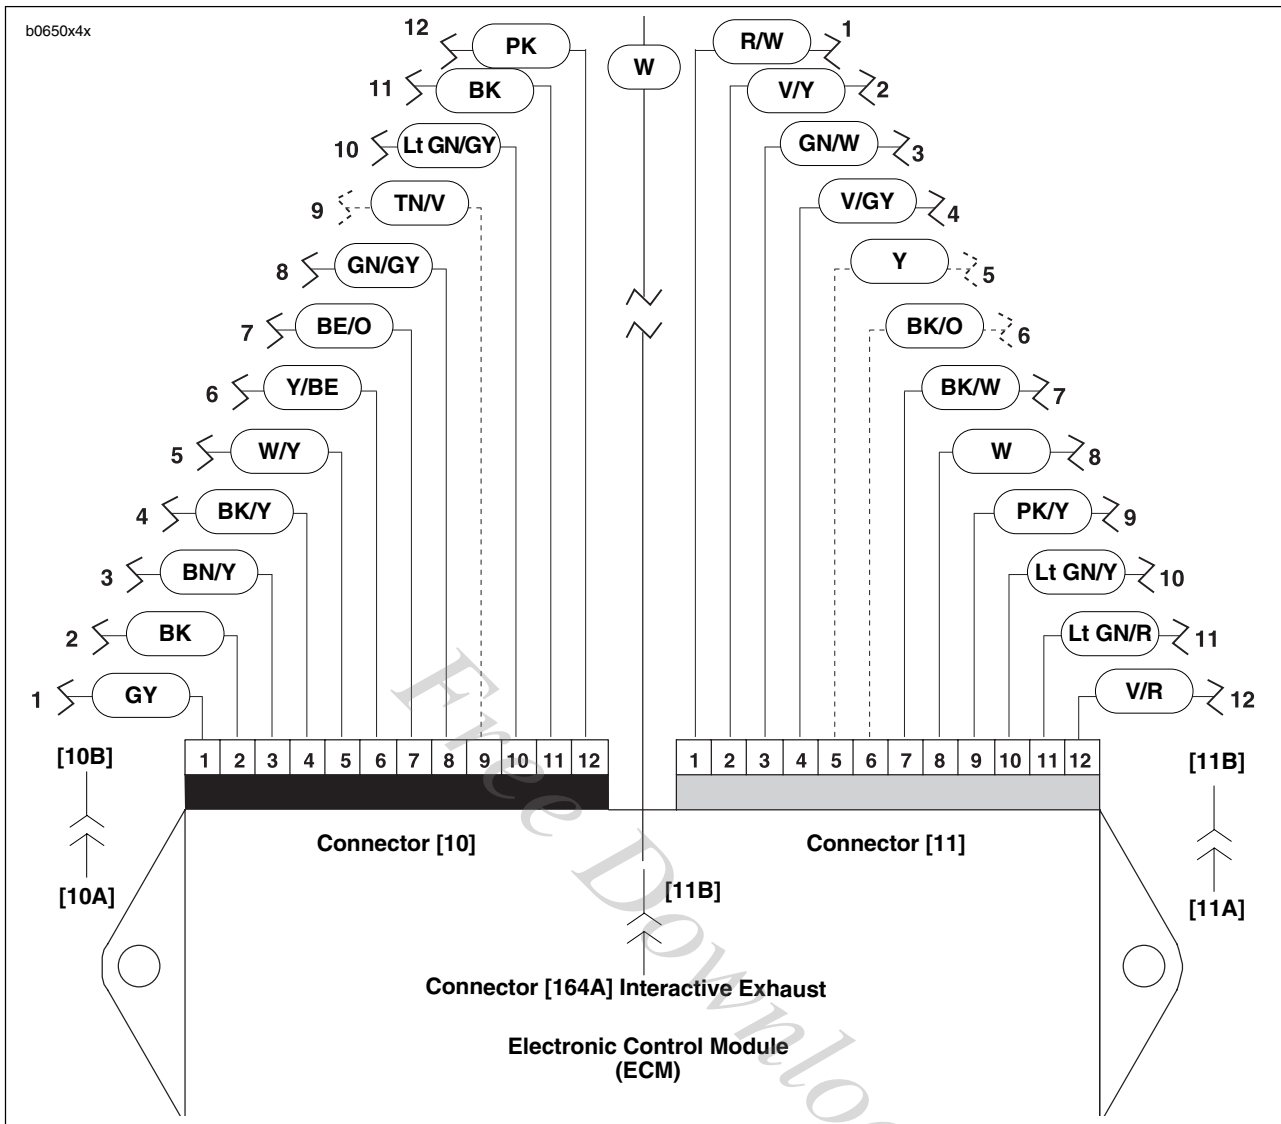

Figure 4-64. ECM Wiring (Interactive Muffler Connector [164] XB12 Models Only)
6. See Figure 4-64. Remove connector terminal pins (7). See B.2 DEUTSCH ELECTRICAL CONNECTORS under B.1 AMP MULTILOCK ELECTRICAL CONNECTORS.
- a. Drill off heads of outer timer cover pop rivets (1) using a 3/8 in. drill bit.
- b. Tap remaining rivet shafts inboard through holes in timer cover (2) and inner cover (20).
- c. Remove timer cover. Remove inner cover screws (3) and inner cover (20).
6. See Figure 4-64. Attach connector [3] (2).
8. Tighten timer plate studs (4) to 15-30 **in-lbs** (2-3 Nm).
9. Install inner cover (20) using screws (3). Tighten to 12-20 **in-lbs** (1-2 Nm).